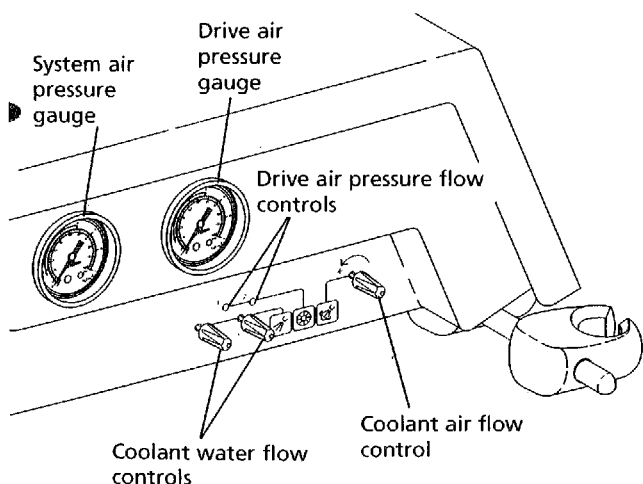
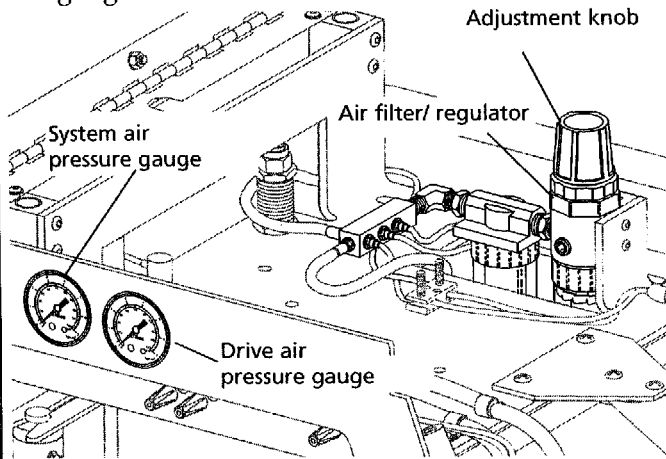

Figure 25. Pac I handpiece controls
Figure 27. Adjust the system air pressure.
Drive Air Pressure Flow Controls (see Figure 25) are used to adjust the drive air pressure to each handpiece. To adjust drive air pressure, refer to *Routine Adjustments, Drive Air Pressure*.
Coolant Air Flow Control (see Figure 25) adjusts the flow of coolant air to both handpieces. Turned fully clockwise, it completely shuts off the coolant air. To adjust coolant air flow, refer to *Routine Adjustments, Handpiece Coolant Air Flow*.
Coolant Water Flow Controls (see Figure 25) are used to adjust the flow of coolant water to each handpiece. To adjust coolant water flow, refer to *Routine Adjustments, Handpiece Coolant Water Flow*.
System Air Pressure Gauge (see Figure 25) displays air pressure coming from the air filter/regulator. The reading should be 70–80 psi (483–552 Kpa). To adjust the system pressure, refer to *Routine Adjustments, System Air Pressure*.
Drive Air Pressure Gauge (see Figure 25) displays drive air pressure to the selected handpiece. Use this gauge to adjust the drive air pressure to the handpiece manufacturer's specifications, as described in *Routine Adjustments, Drive Air Pressure*.
The air filter/regulator (see Figure 27) controls the system air pressure and is preset to 80 psi (552 kPa). If the system pressure is not 80 psi (552 kPa), simply lift the adjustment knob and turn clockwise to increase pressure and turn counterclockwise to decrease pressure. When adjusting to decrease pressure, press the syringe air button before reading the gauge.
2. Locate the drive air pressure gauge (see Figure 27) and the drive air pressure control (see Figure 25).
2. Locate the coolant air flow control (see Figure 25).
2. Locate the coolant water flow controls (see Figure 25).